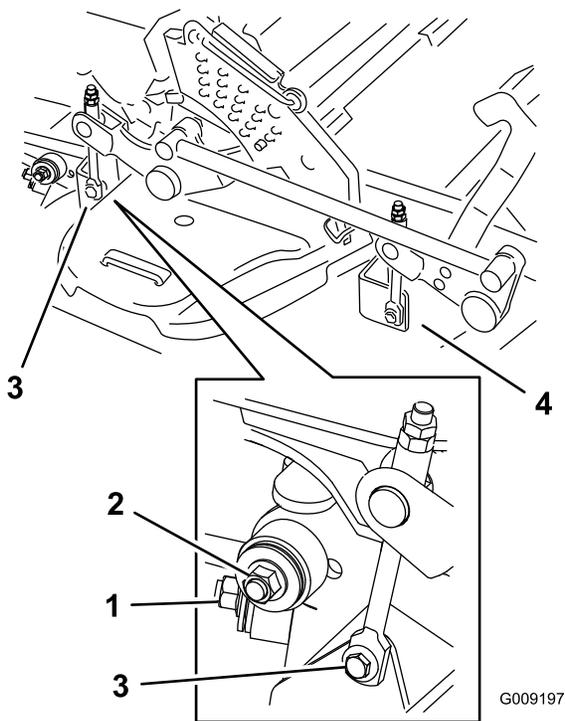

Figure 99
8. Remove and retain the hardware on both sides of the deck as shown in Figure 99.